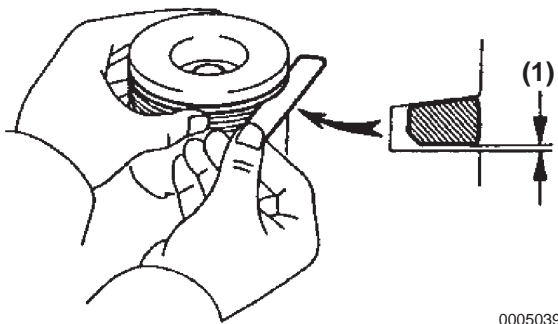

Figure 5-116
Install a new piston ring to the piston. Measure the clearance (**Figure 5-116, (1)**) between the piston ring and ring groove using a thickness gauge.